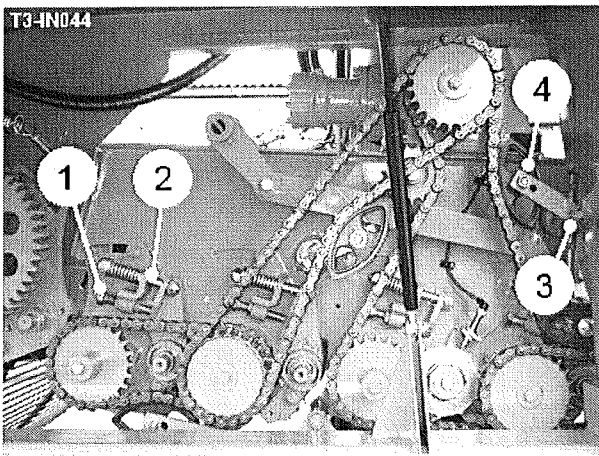
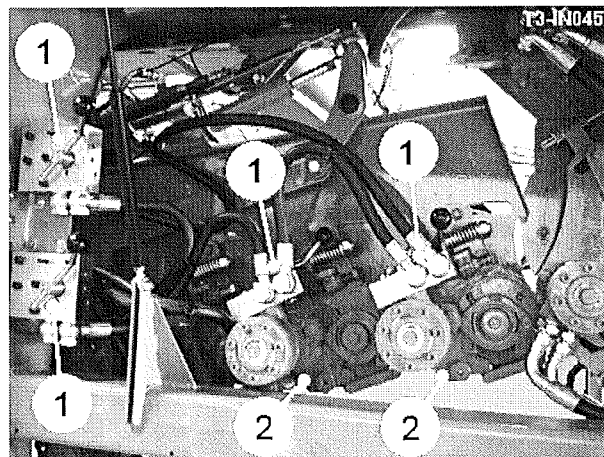

Fig 14
Fig 15
Running the clod roller with the crop flow at a slow speed will give some separation, while increasing the speed will transfer all the crop and soil. The clod rollers will normally be adjusted to run approximately 1 to 2 mm away from the tip of the scrolls for effective haulm removal. The clod roller gap is set by adjusting the stop bolts (item 1, fig 14) against the spring tension on the clod roller mounting plates. Spring tension is adjusted on the spring tie bolts (item 2, fig 14). All adjustments must be made evenly on both sides of the units.
The scroll speed and clod roller speed of each unit can be set on the service terminal screen. In addition, each clod roller motor is fitted with a manual reversing valve (item 1, fig 15) allowing the operator to fine tune the separation.
Each clod roller is fitted with a scraper (item 2, fig 15) which needs to be closely adjusted to remove loose soil from the rollers. Drive chain tension is set by releasing the bolt (item 3, fig 14) and rotating the tensioner mounting (item 4, fig 14).